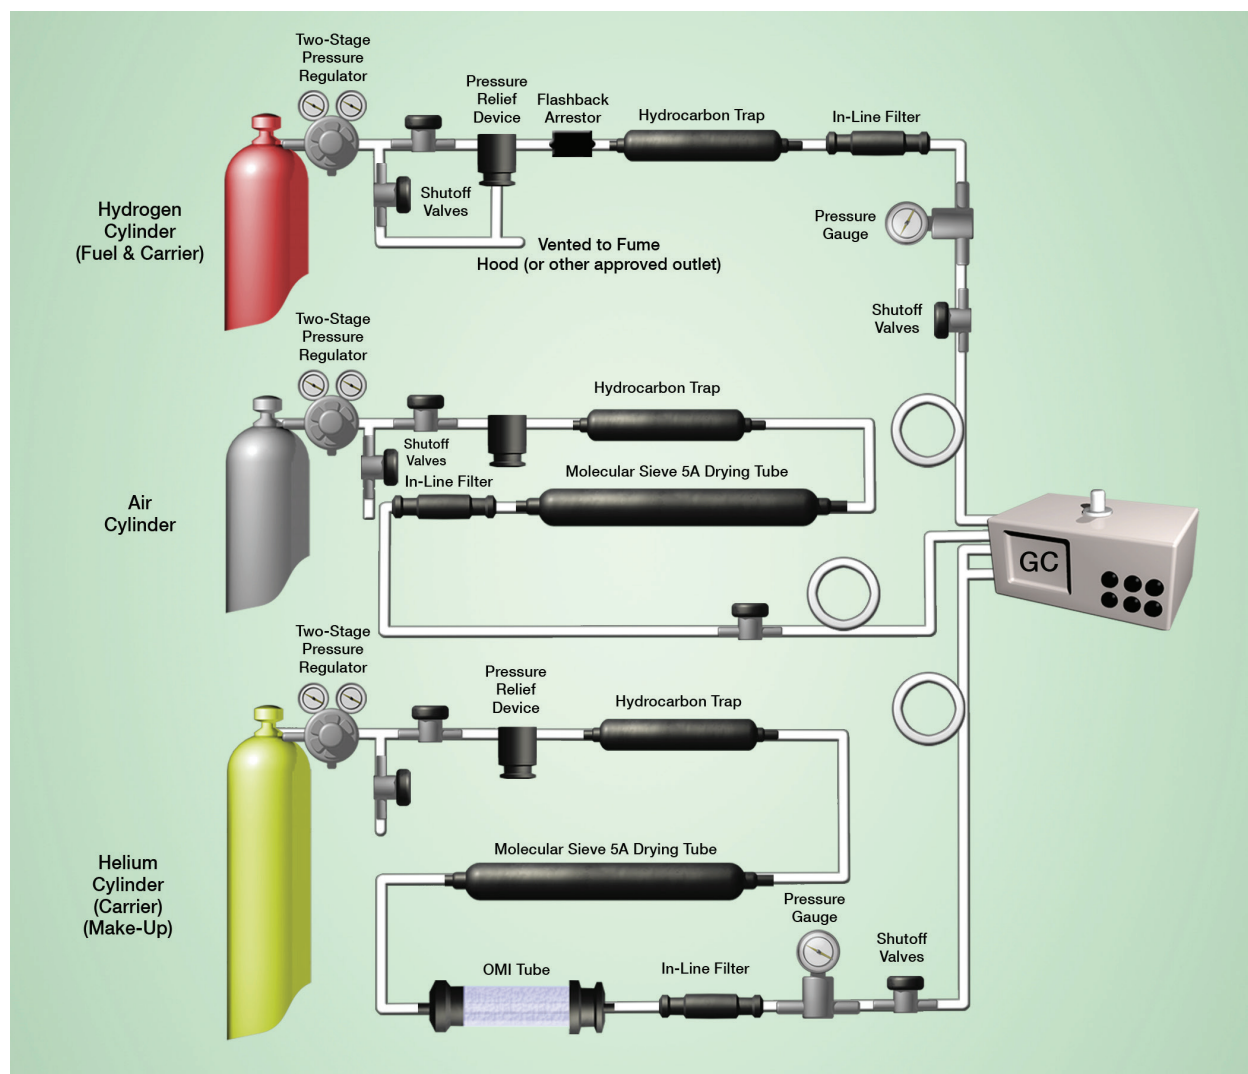

Figure 3: Standard Configuration for a Single GC System: Gas Delivered from Cylinders
2. Reduce tubing line lengths as much as possible. See Figure 3.